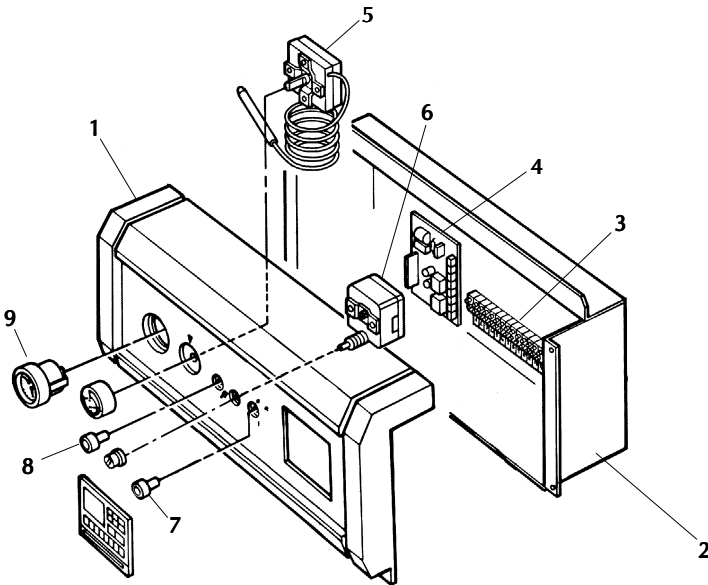

Fig. 5
Caution: Be particularly careful when handling the electronic flame control unit (part. 4, fig. 5) and its connections.
4.03 Exploded view of the control panel (fig. 5)